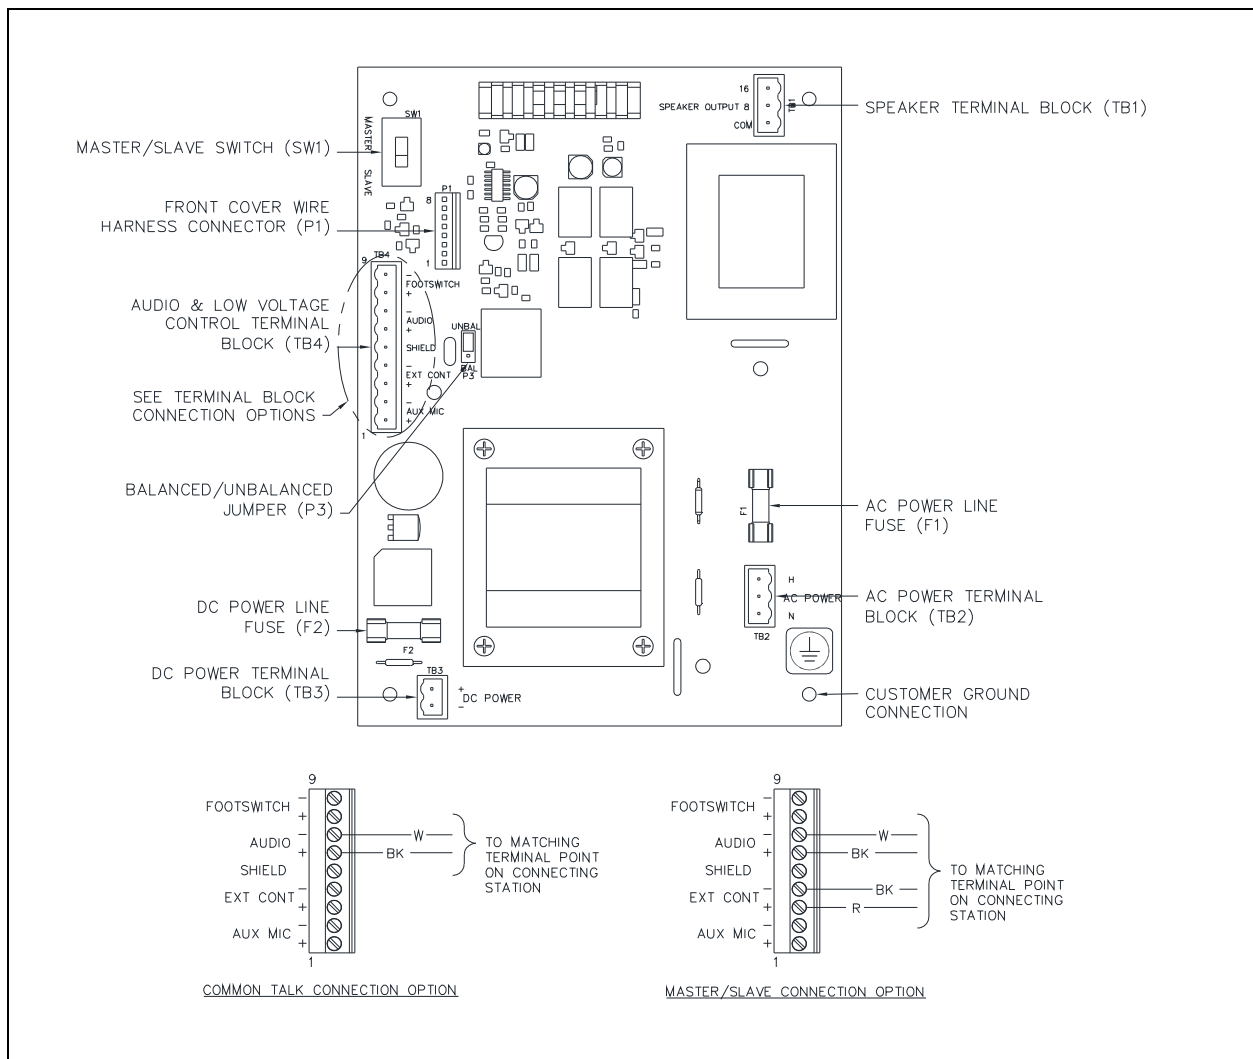

Figure 5. RigCom Station PCBA
2. Connect the ring lug on the ground wire to the ground terminal, at the lower right corner of the RigCom station PCBA (see Figure 5).
5. Attach the wires to the terminal blocks, on the PCBA, within the enclosure (see Figure 5 and the Field Connections section for connection points and descriptions).
Plug the front cover wire harness connector in at P1 (see Figure 5).